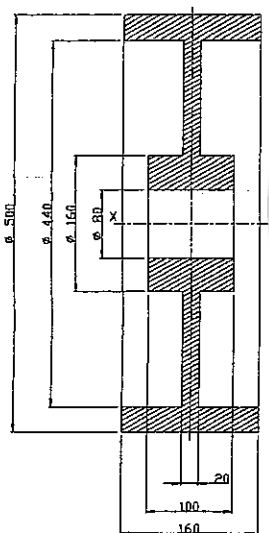

Fig. 5A Flat-belt pulley (unit: mm)
The flat-belt pulley is shown in Fig. 5A. The material of the pulley is steel, and the mass density ρ of steel is 7800 kg/m^3 . The dimensions are expressed in millimeter. Please find the second moment of mass or called mass moment of inertia of the pulley about the axis X-X.
- (1) The gear shaft D is 40 mm in diameter and 200 mm in length.
- (2) The pitch diameter of the gear A is 100 mm, and the face width of the gear A is 50 mm.
- (3) The pitch diameter of the gear B is 275 mm, and the face width of the gear B is 50 mm.
- (4) The pulley C is the same as that shown in Fig. 5A.
- (5) The shaft E is 80 mm in diameter and 400 mm in length.